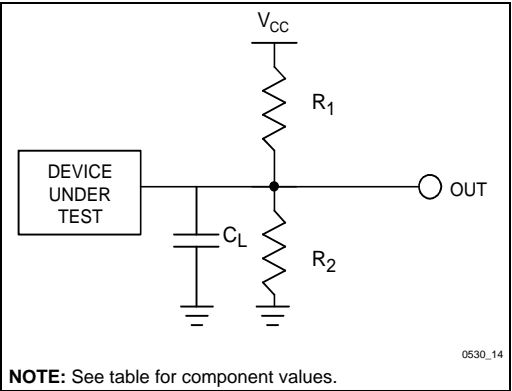

Figure 22. Test Configuration
5. See *Test Configuration* (Figure 22), 2.7 V–3.6 V and 3.3 ± 0.3 V Standard Test component values.
6. See *Test Configuration* (Figure 22), 5 V Standard Test component values.
9. See *Test Configuration* (Figure 22), 2.7 V–3.6 V and 3.3 ± 0.3 V Standard Test component values.
10. See *Test Configuration* (Figure 22), 5 V Standard Test component values.